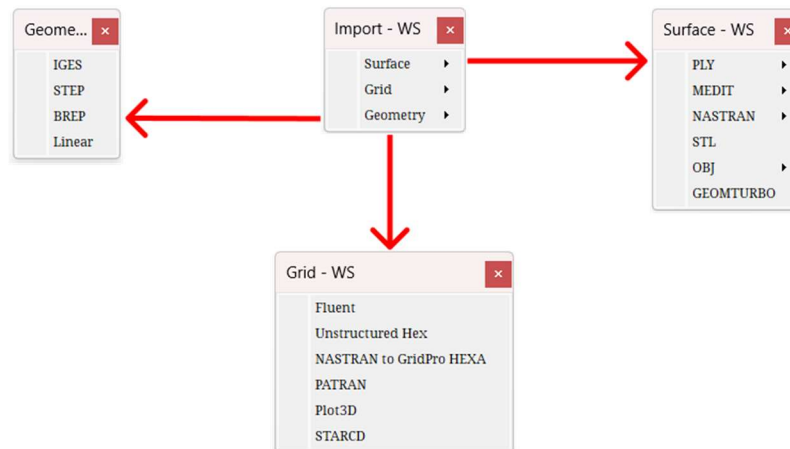

Figure 2.19: Import formats of geometry and grid
**Import** option allows you to import various geometry and grid formats into the GridPro UI. Once the appropriate file is selected, it converts the respective file to GridPro format and loads into the UI. Figure 2.19 shows various import geometry and grid formats available in the UI.